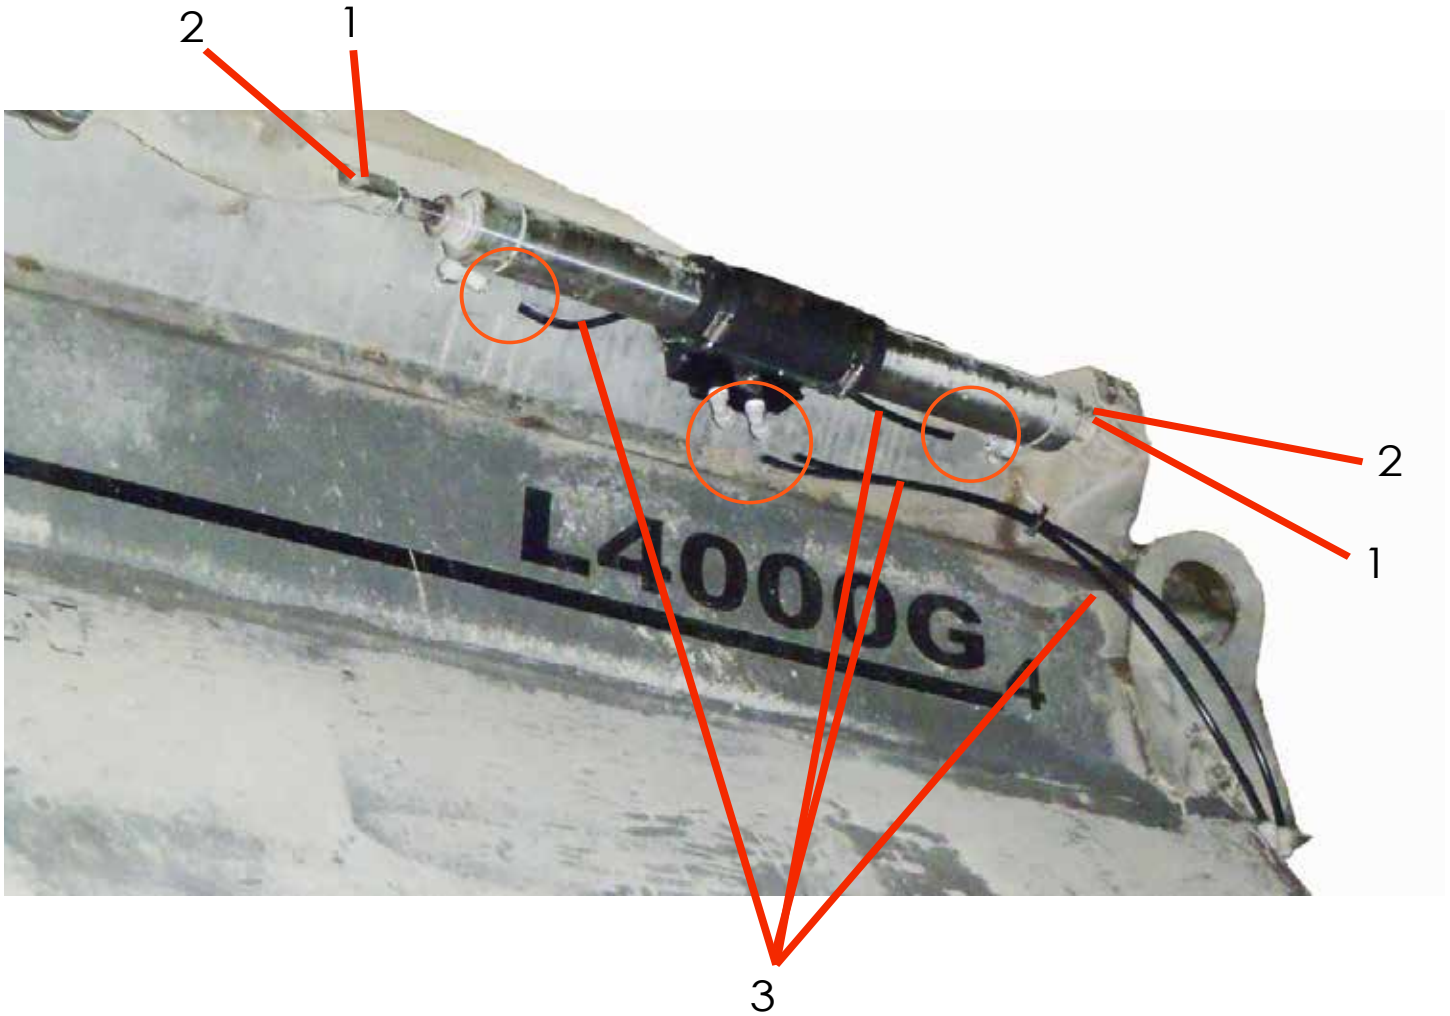

Figure 8
8. Figure 8 - Reinstall cylinder as shown using original clevis pins (2) and e-clips (1). **NOTE: Do NOT connect air tubes (3) at this time (as shown in Figure 8).**